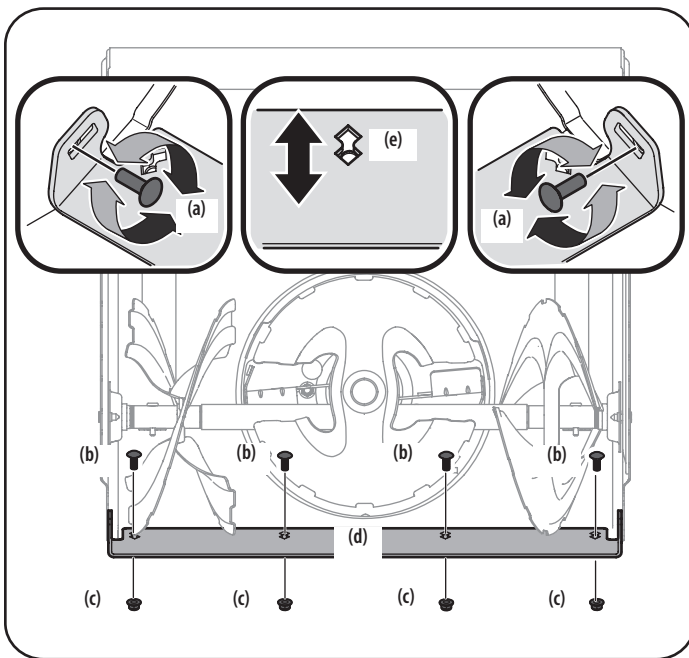

Figure 14
3. Loosen rear skid shoe bolts (a) on both sides of equipment housing and remove carriage bolts (b) and hex nuts (c) which attach shave plate (d) to auger housing. See Figure 14.
4. Adjust the shave plate so that it is roughly 1/8" above the skid shoes. Reinstall and tighten the carriage bolts (b) and hex nuts (c) all bolts securely. See Figure 14.